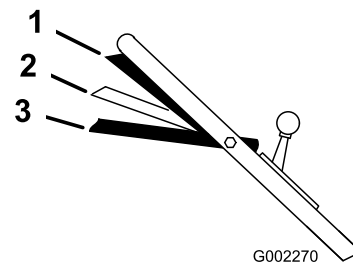

Figure 15
3. Squeeze the blade control bar against the handle to the Run/Drive position (Figure 15).